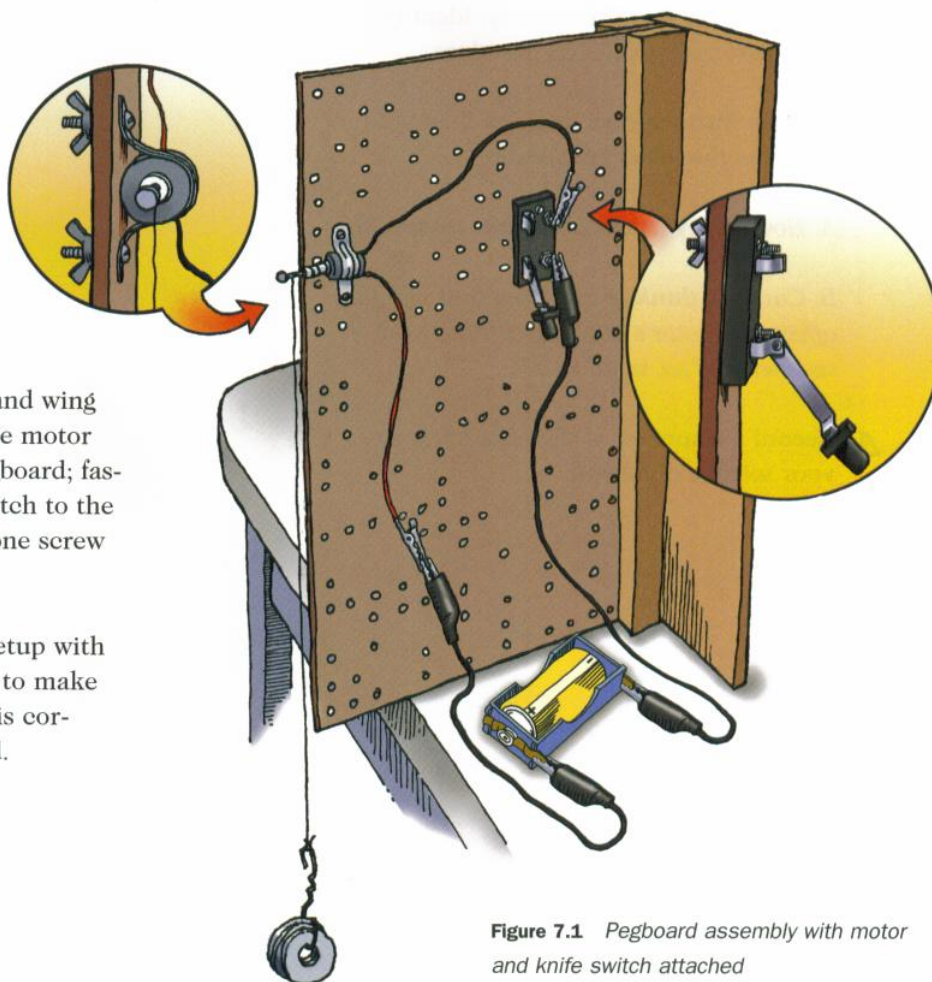

Figure 7.1 Pegboard assembly with motor and knife switch attached
2. Your goals for this period are to set up and test your equipment and to plan a procedure to test your prediction. Set up the motor, knife switch, and pegboard assembly as shown in Figure 7.1. If your teacher has not already done so, remove the black caps from the screw terminals on the knife switch and return the caps to your teacher. Use two screws and wing nuts to attach the motor clamp to the pegboard; fasten the knife switch to the pegboard using one screw and wing nut.